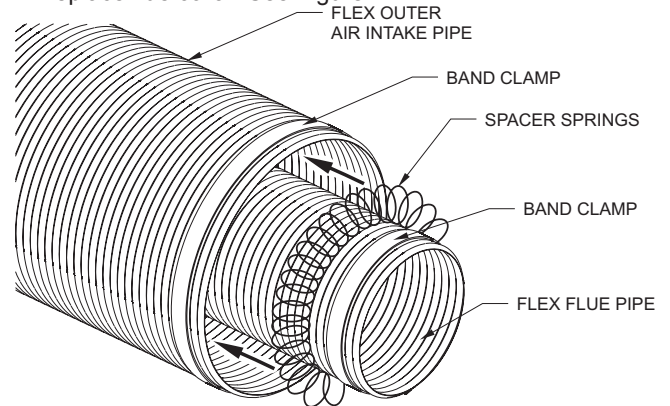

Figure 2
6. Locate the inner flex vent which has a pre-assembled flue collar connector and attach the spacer springs. The springs should be spaced evenly apart starting at 12 inches from the fireplace flue collar. See Figure 2.